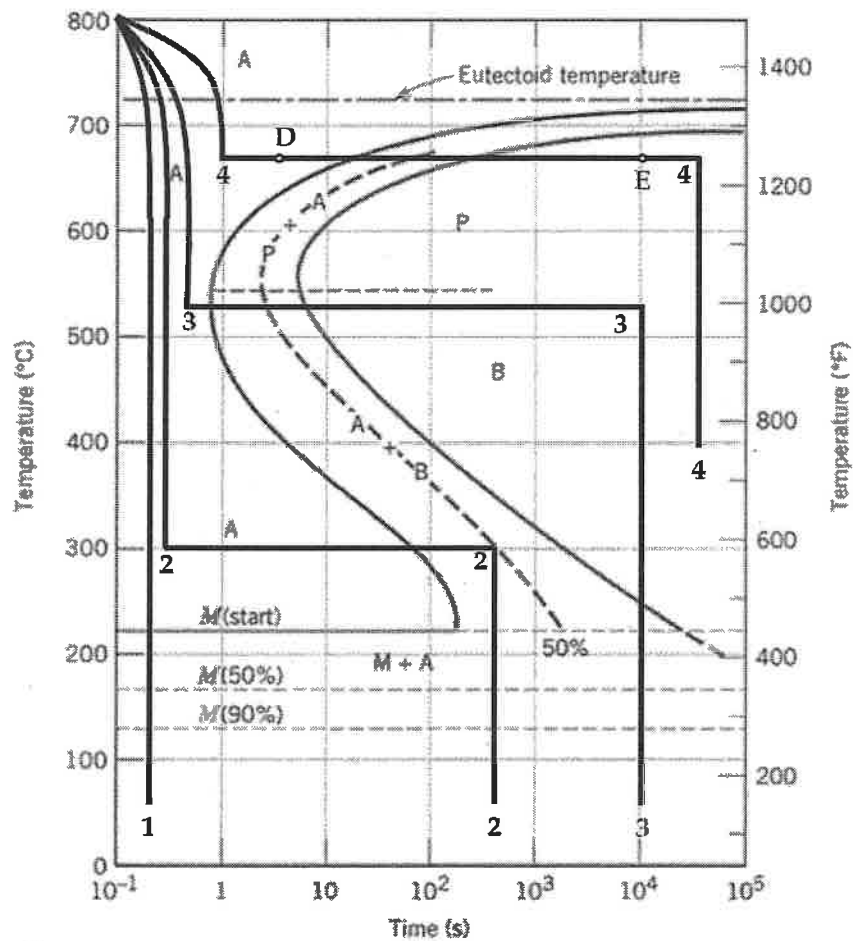

Figure Q3
- d) **Figure Q3.** presents the **Time-Temperature-Transformation (TTT)** diagram for eutectoid steel (0.76% C). Describe cooling paths 1, 2, 3, and 4, identifying the phase transformation that occurs at each stage.
- e) With reference to **Figure Q3.**, sketch the expected microstructure at **Point D** and **Point E** along cooling path 4 and clearly label all phases present at each location.